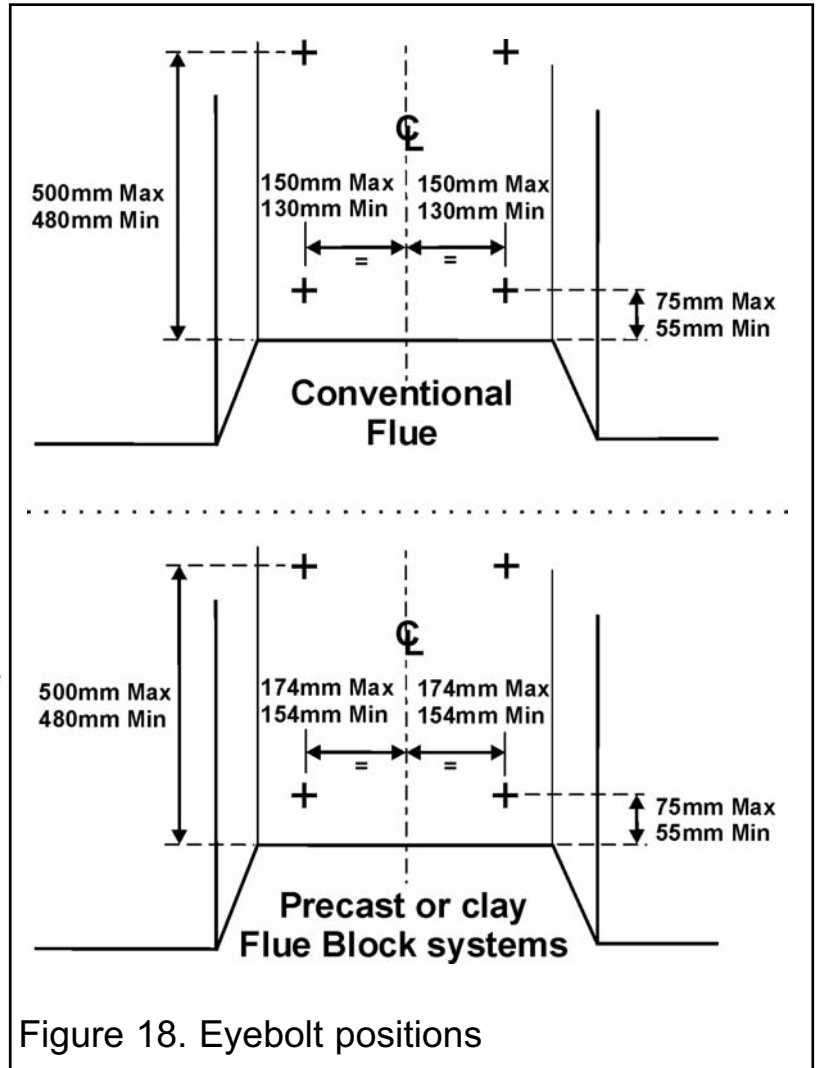

Figure 18. Eyebolt positions
2. Drill four holes in the rear wall of the fireplace for the fibre / wooden plugs. The holes should be drilled within the range of positions shown in figure 18 using a suitably sized masonry drill for the fibre / wooden plugs supplied. The holes should be equidistant each side of the centre line of the fireplace to ensure that the appliance finishes centrally in the opening when tension is applied to the cables.